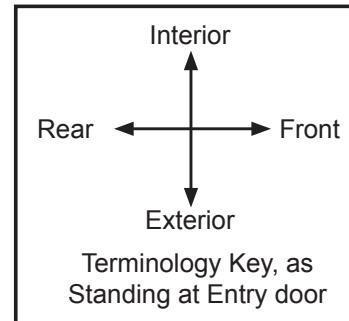

Figure 1
4. With the entry step retracted and auxiliary battery disconnect off, open the entry door. Access the auxiliary battery compartment by removing the (2) screws from the cover on the lower step with a wide, flat blade screwdriver. Set the screws aside for later reinstallation.
5. Inspect the battery compartment area for the battery hold down strap orientation. Refer to Figure 1 for a terminology key, and to the photos in Figures 2-4 on Page 3 as examples of both battery hold down strap scenarios.